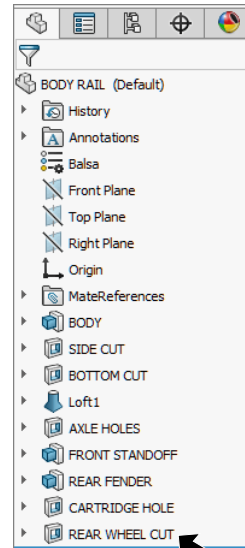

Fig. 108
Step 1. Rename Cut-Extrude1 to REAR WHEEL CUT in the Feature Manager, Fig. 108. To rename, use F2 on keyboard.